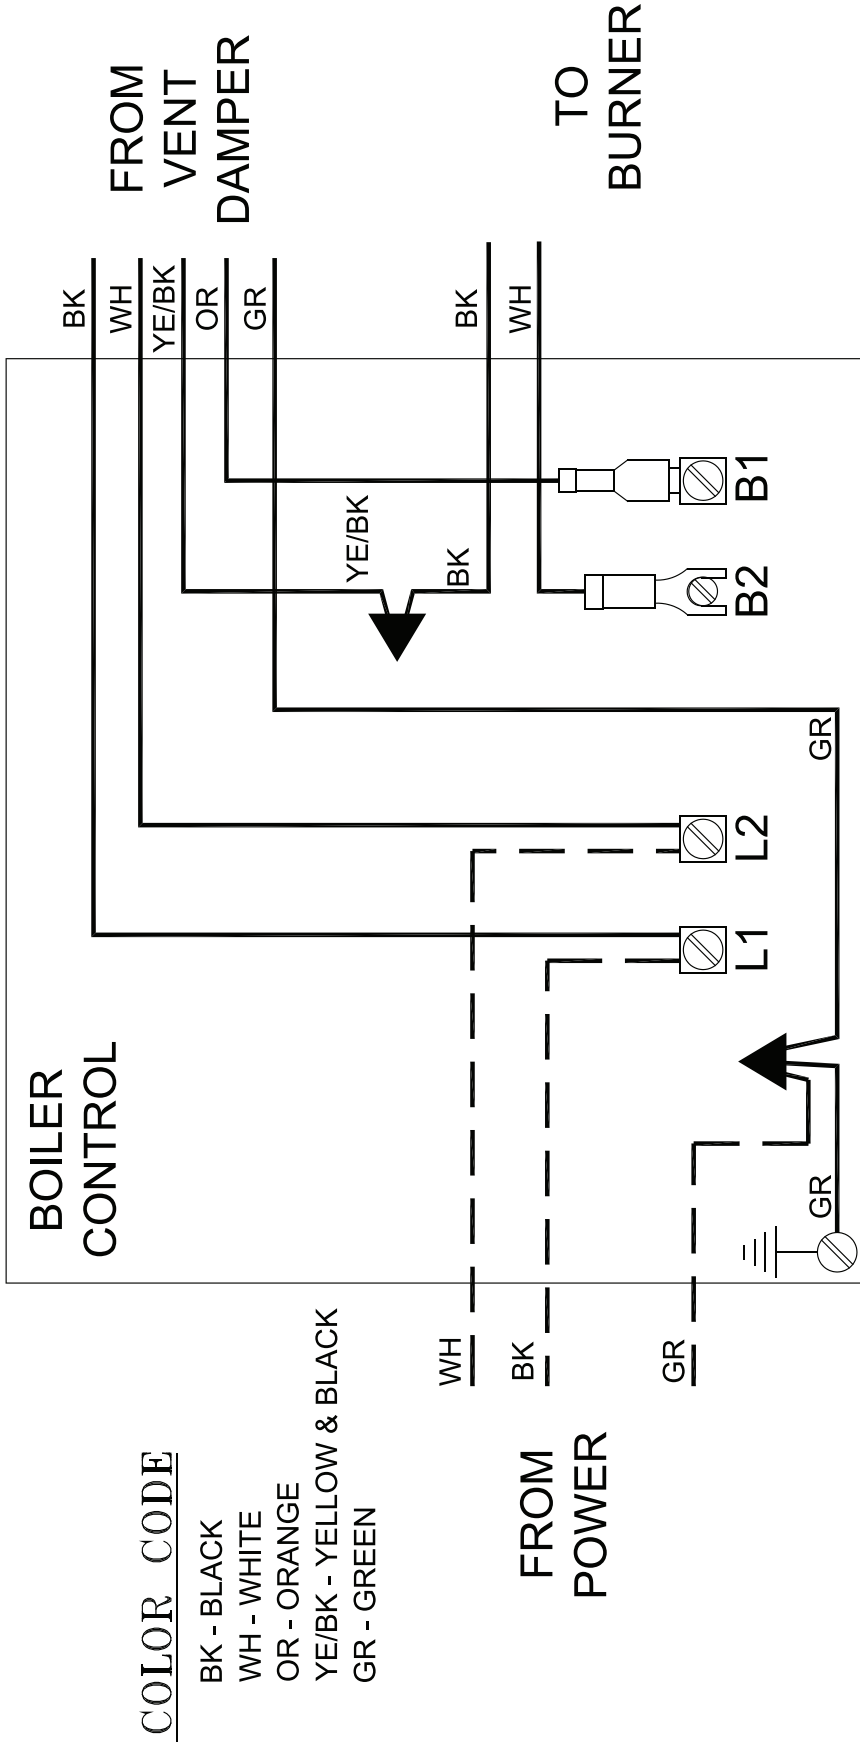

Figure 2: Wiring Diagram
- a. Install the OVD wiring in accordance with Figure 2 and Field Control’s Oil Vent Damper System manual.